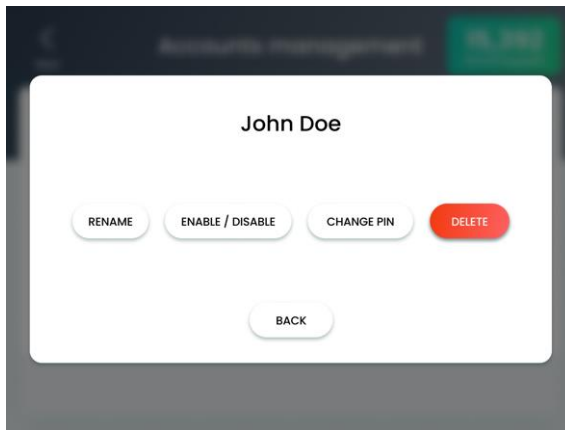

Figure 6-12. Selected User's Account Screen
2. In the Accounts screen, tap the User entry that is to be removed; the selected user's Account screen appears, as shown in Figure 6-12.